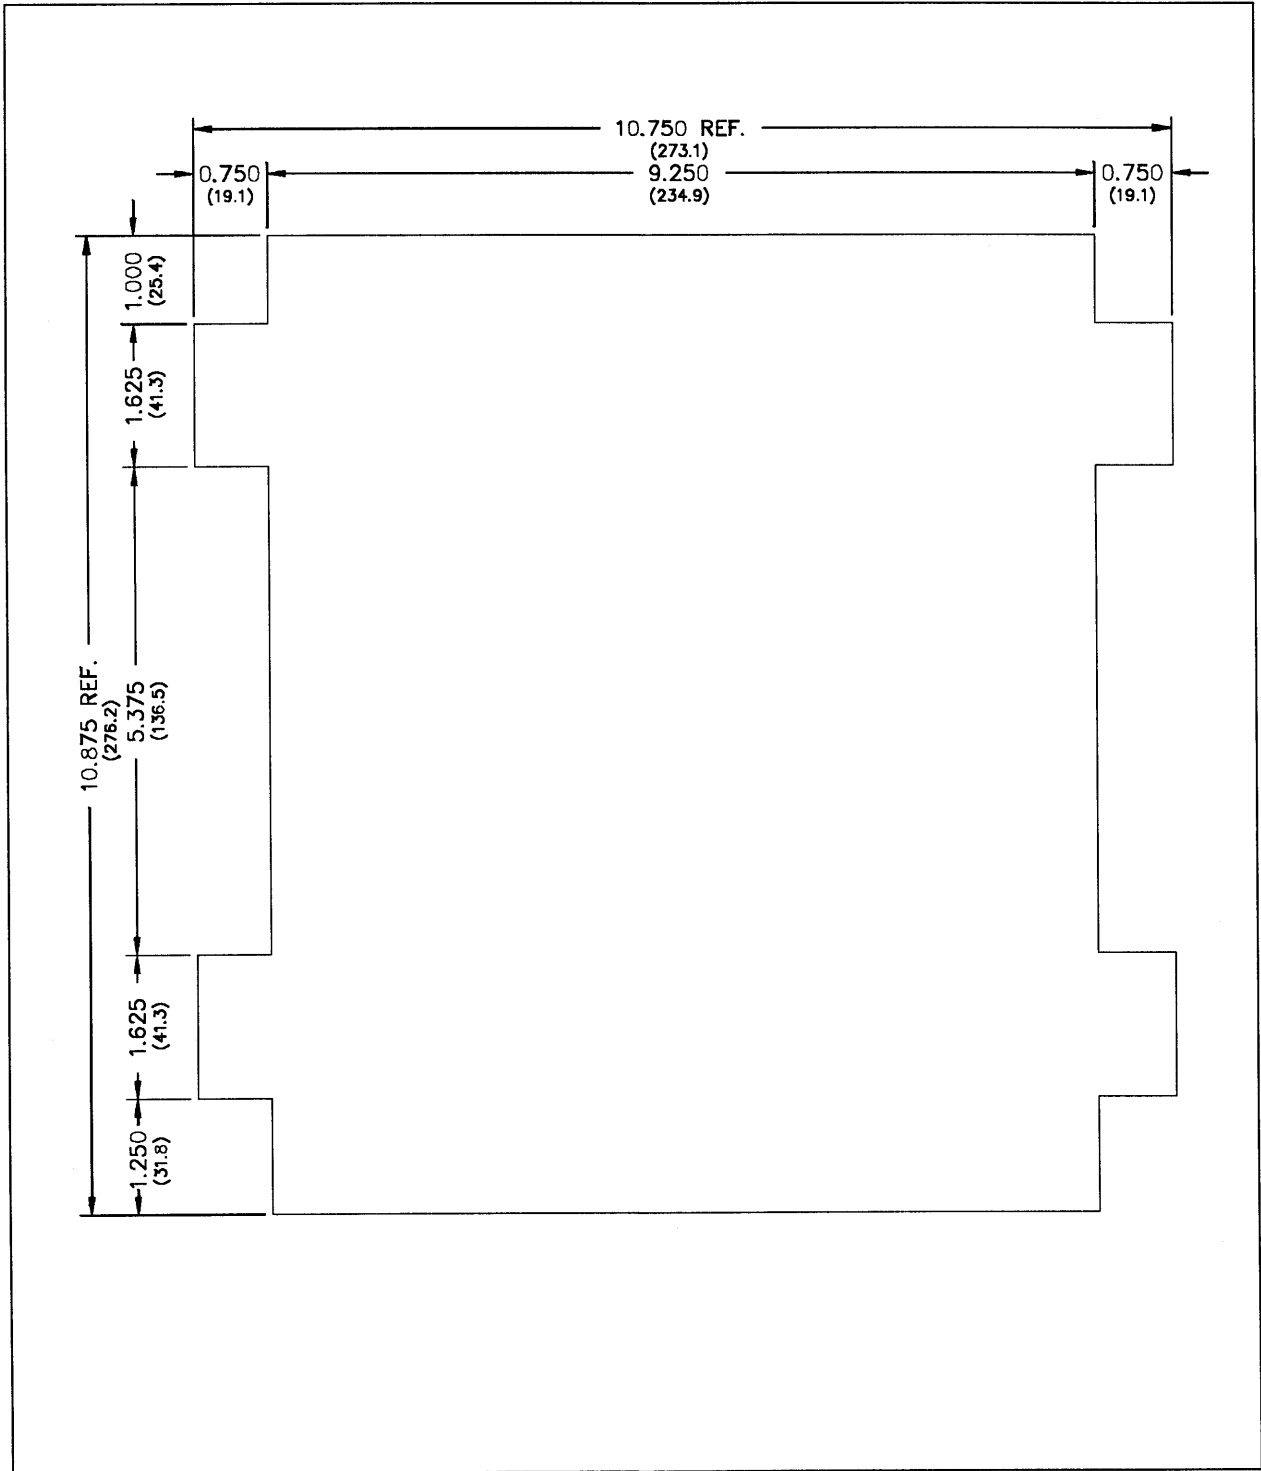

Figure 3. Suggested Wall Cut-Out Detail
1. Refer to Figure 3 for the suggested wall cut-out detail.